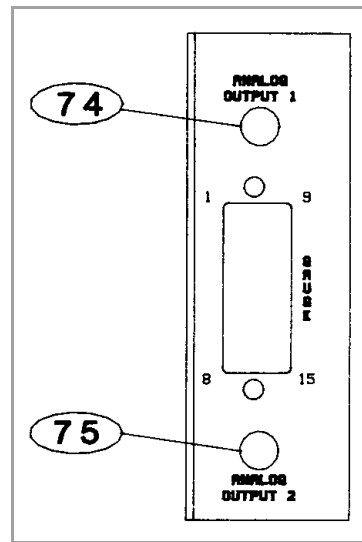

Figure 4-2 Thermocouple Gauge Module Rear Panel.
On the rear panel are provided analog outputs for both gauges, (74) and (75). The voltage is 0 to 10 volts dc, non-linear. See Figure 4-2.